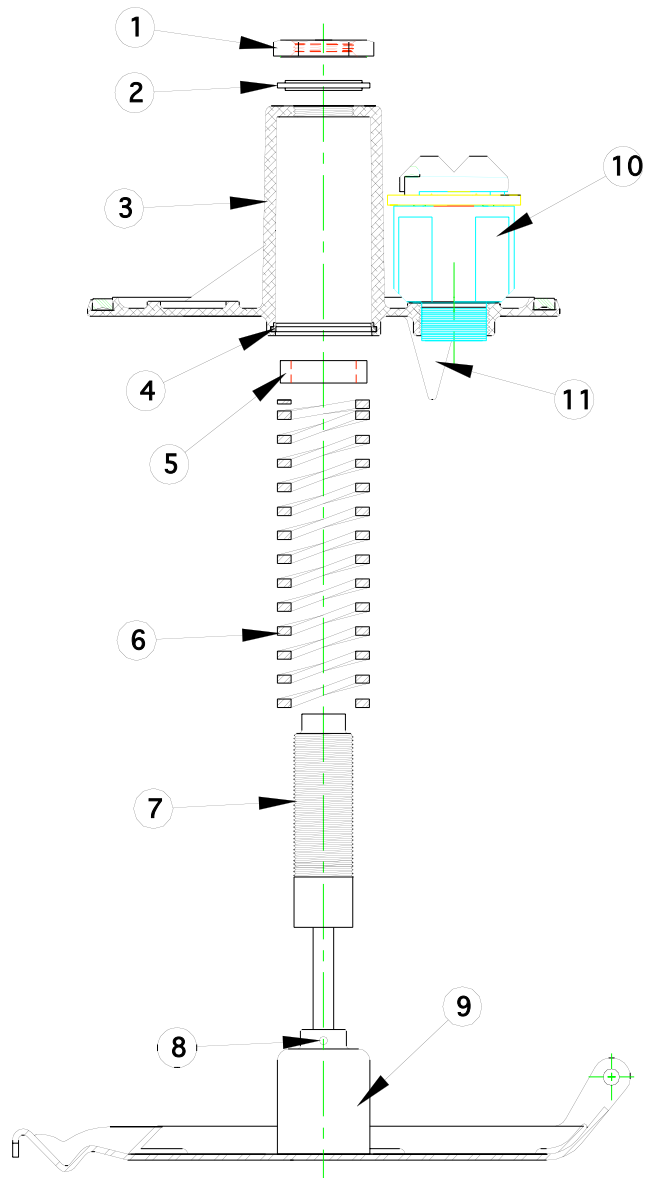

Figure 7
1.	Review Figure 7 (Page 11) before performing inspection.
2.	While holding Motion Control Device (M.C.D.) (7) stationary with Wrench, remove Jam Nut (1) and Seal Washer (2) and set aside.
3.	Using wrench, screw M.C.D. in towards bottom of Fill cover (3) until Fill cover becomes separated from Strongback (9). Lift Fill cover away and set aside.
4.	Check Spring (6) for any signs of rusting or wear. If so, Spring must be replaced.
7.	Inspect the Strongback (9) for any signs of corrosion. If so, replace.
8.	Check the Seal (4) for any sign of wear that might affect it's sealing ability. If so, replace.
9.	Check the Fill cover (3), paying close attention to the springwell portion that houses the Spring (6) for signs of corrosion. If corrosion is found the Fill cover will need to be replaced.
10.	Place Spring (6) on the Strongback (9). Apply grease to O.D. of Spring and I.D. of springwell of strongback and then place Fill cover (3) over the spring.
NOTE:	Due to spring tolerances, some assemblies may have a Spacer (5) between the Spring and the bottom of the Fill cover. If the assembly has this spacer, when assembling the spacer must be placed in it's original location between the spring and the Fill cover (See Figure 7, page 11). If the spacer is placed in any other location, the Smart Vent may lock up during assembly, causing severe damage to the vent.
NOTE:	When assembling, care must be taken to ensure the Centering Ears (11) on the Fill cover straddle the strongback(9). If the ears are not straddling the strongback when assembled, they may hang up on the bottom of the strongback, causing severe damage to the vent. (See Figure 7, page 9)
12.	Check Seal Washer (2) for signs of wear or degradation. If the seal is cracked or separated from washer material, it must be replaced.
13.	Install Seal Washer (2) and Jam Nut (1) onto M.C.D. and adjust Fill cover Assembly following the steps covered on page 7 (Fill cover Adjustment Procedure).